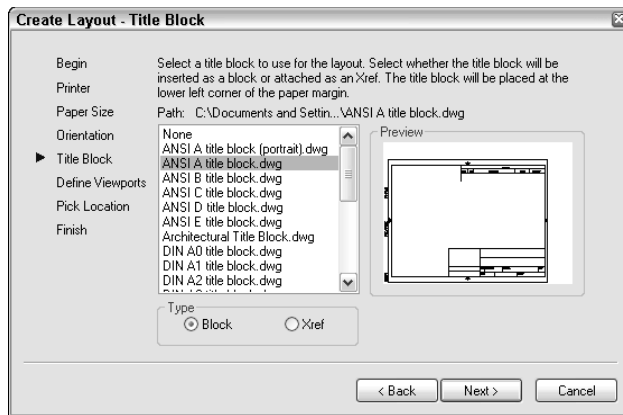

Figure 17-4: The Title Block screen of the Layout Wizard.
6. On the Title Block screen, shown in Figure 17-4, choose a title block if you want to add one. You can add it as a block (see Chapter 18) or as an *external reference* (or *xref*—see Chapter 19).